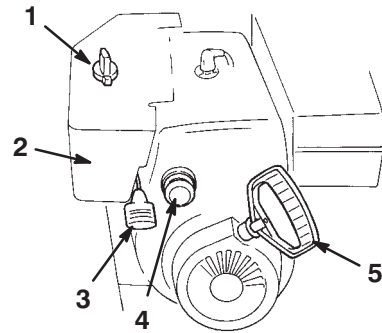

Figure 14
- **Choke** (Fig. 14)—Move the choke to the **Full** position to start a cold engine. As engine warms up, gradually move the choke to the **Off** position.
- **Ignition Switch** (Fig. 14)—Insert the key before starting the engine. To stop the engine, remove the key.
- **Throttle** (Fig. 14)—Move the throttle upward to increase the engine speed; move it downward to decrease the engine speed. Move the throttle to the **Stop** position to stop the engine.
- **Primer** (Fig. 14)—Press the primer to pump a small amount of gasoline into the engine for improved cold-weather starting.
- **Recoil Starter** (Fig. 14)—The recoil starter is on the back side of the engine. Pull the recoil starter to start the engine.
2. Remove the key from the ignition switch (Fig. 14).
3. Pull the choke knob off (Fig. 14).
2. Move the throttle to the **Fast** position (Fig. 14).
5. Rotate the choke (Fig. 14) to the **On** position.
6. Insert the ignition key (Fig. 14).
7. Cover the hole in the center of the primer (Fig. 14) with your thumb and slowly push in the primer 3 times, pausing a moment between pushes.
8. Grasp the recoil starter handle (Fig. 14) and pull it out slowly until positive engagement results; then pull the handle vigorously to start the engine.
10. After the engine starts, immediately rotate the choke (Fig. 14) to the 3/4 position. As the engine warms up, rotate the choke to the 1/2 position. When the engine warms up sufficiently, rotate the choke to the **Off** position.